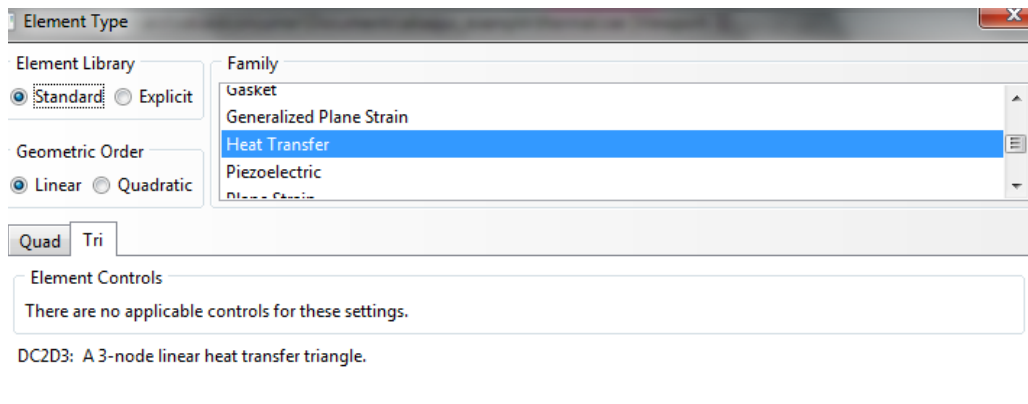

Figure 13
- Under the Mesh menu (top of screen) select Element Type. Select Standard Linear Heat Transfer Elements as in figure 13